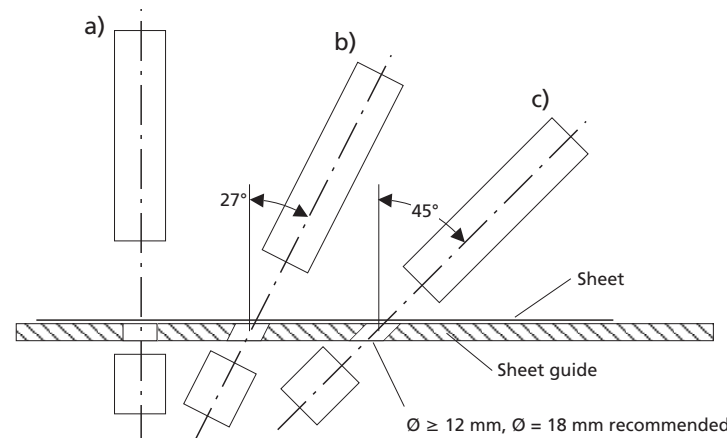

Fig. 5: Installation positions
- When working with papers and thin films, we recommend you install the dbk perpendicular to the sheet (see fig. 5 a).
- When working with thin sheet metals, thicker plastic films (e.g. credit cards), install the dbk with a deviation of 27° from the perpendicular (see fig. 5 b).
- Types of paper that lead to false triggering when the dbk is mounted perpendicular (as a rule, types with air pockets) can frequently be scanned more accurately when the dbk is installed at an angle of 45° to the sheet. If the dbk is angled towards the corrugations of corrugated, the system can even be used to scan fine corrugateds (G and F; see fig. 5 c).
- If you install the transmitter in a recessed position or position a sheet guide between the transmitter and receiver, the hole must have a minimum diameter of ≥ 12 mm, but we recommend a diameter of 18 mm (fig. 5).